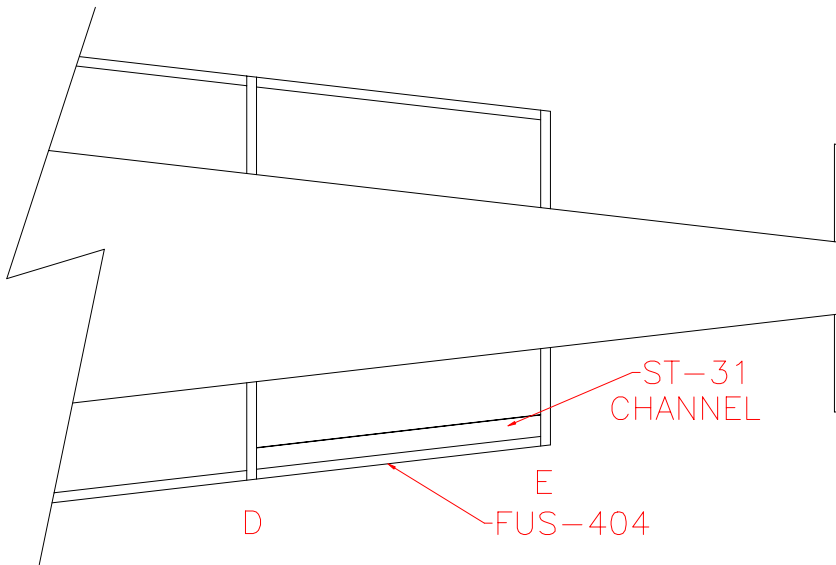

Figure 9.4.3
4) Position one of the channels, flange facing outward, over one of the outer lines. Center the channel between bulkhead positions “D” and “E”. Drill the two #40 holes into the Bottom Cone Skin along the line. Figure 9.4.3